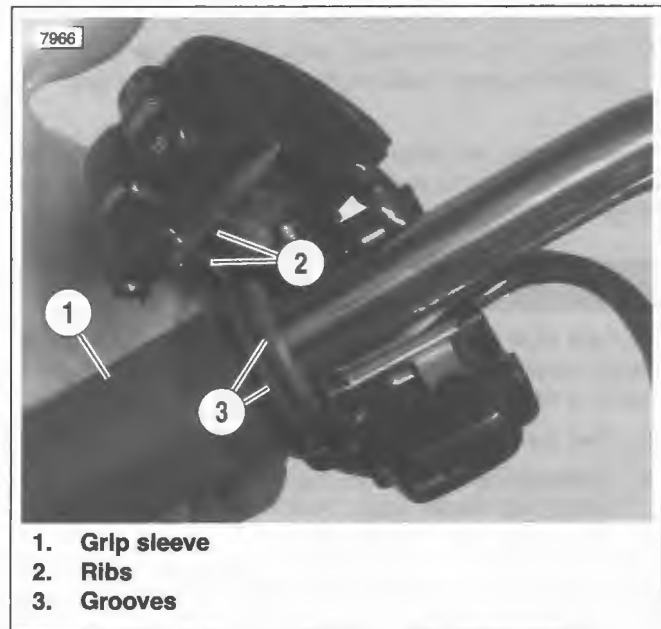

Figure 8-106. Left Handlebar Switch Housings
2. See Figure 8-106. Install upper and lower switch housings on handlebar. Be sure that ribs (2) on outboard side of switch housings fit in grooves (3) molded into grip.